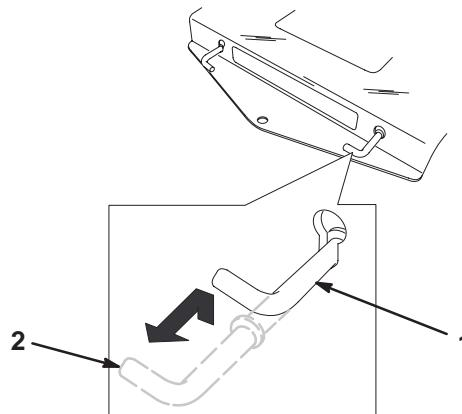

Figure 15
3. Pull the two bypass levers up and push them until the washer on the rod passes through the slot. Push the levers down to lock them in place (Fig. 15).
Pull each bypass lever up and pull them completely out. Push the levers down (Fig. 15).